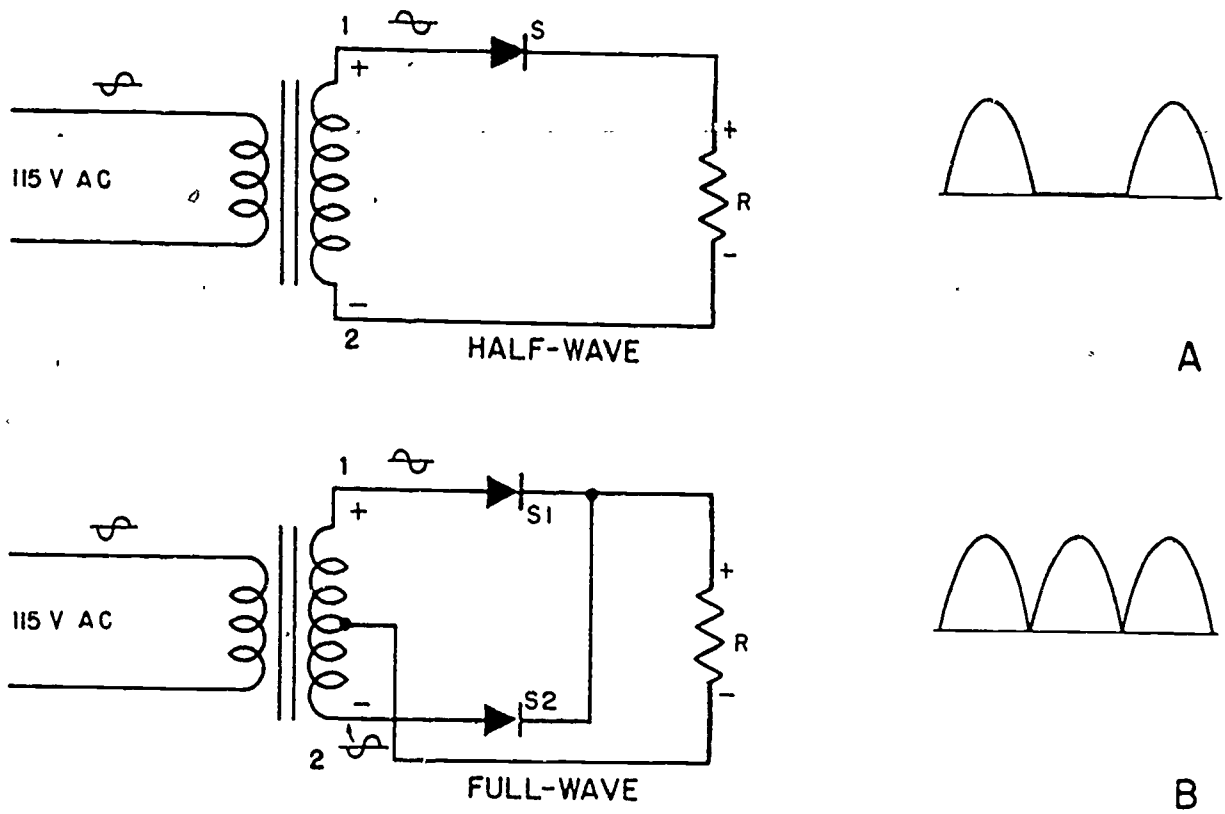

Figure 1-8. Half-wave and full-wave solid-state rectifiers.
- (a) In A of figure 1-8, a junction diode is used as a half-wave rectifier. The output is identical with that of a diode tube rectifier. Again, filtering will result in a near-steady dc output.
- (b) In B of figure 1-8, two junction diodes are used as a full-wave rectifier, each rectifying one-half the input signal. The resulting output voltage can be filtered into a steady dc voltage.